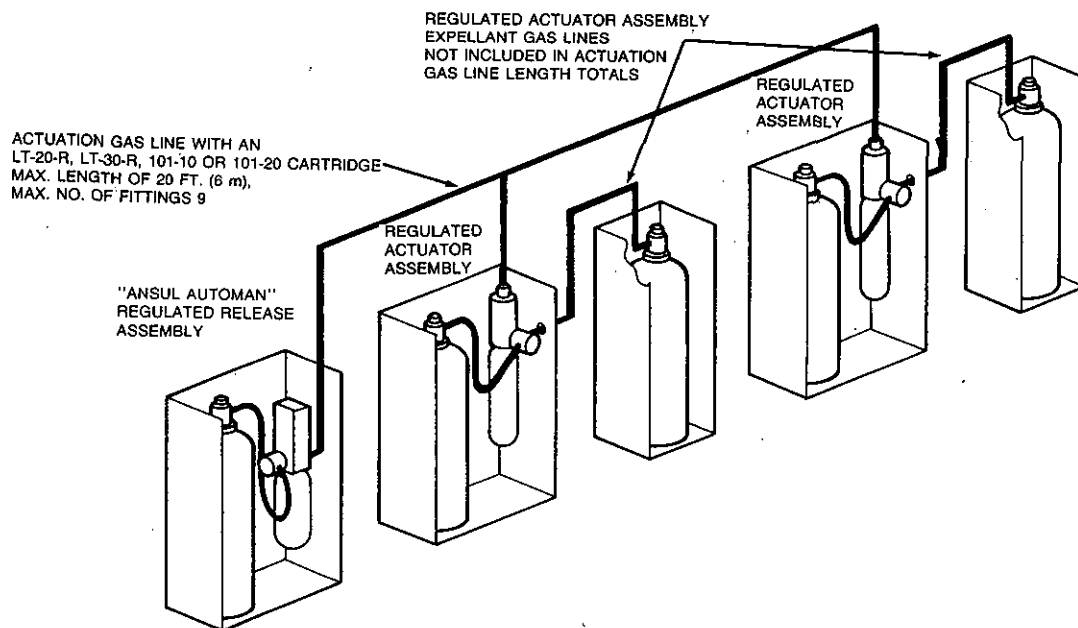

FIGURE 59
2. The actuation gas line piping is installed from the regulated release mechanism to each regulated actuator connected within the system. The total length of the actuation gas line from the regulated release assembly to the regulated actuator assembly(ies) **must not exceed 20 ft. (6 m)** when using an LT-20-R (Part No. 7032), an LT-30-R nitrogen cartridge (Part No. 5373), or a 101-10 (Part No. 15850) or a 101-20 (Part No. 17492) carbon dioxide cartridge. See Figure 59.